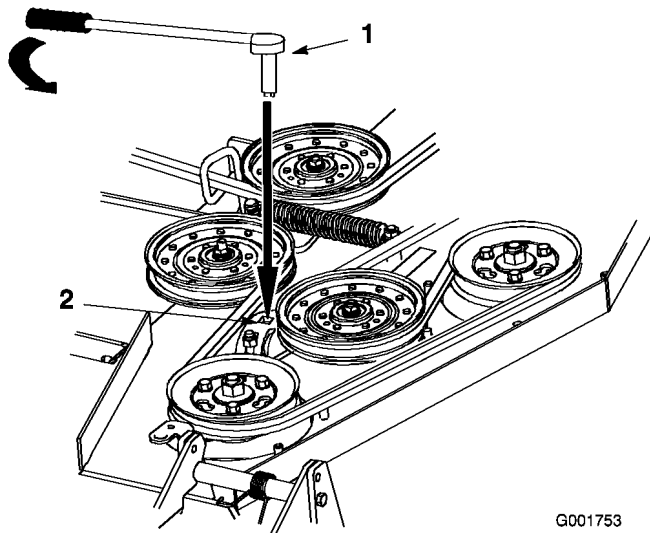

Figure 49
5. If adjustment is required, loosen the idler plate to adjust it (Figure 49).
6. Insert a ratchet or breaker bar into the square hole in the idler plate to adjust the tension (Figure 49).
7. To increase belt tension, rotate the ratchet or breaker bar to move the fixed idler until you feel increased resistance and the spring-loaded idler pulley stops moving (Figure 49).
8. While holding the belt tension, tighten the idler plate bolts that secure the idler plate (Figure 49).
10. Adjust the belt tension and the idler plate, if necessary, and tighten all hardware securely (Figure 49).